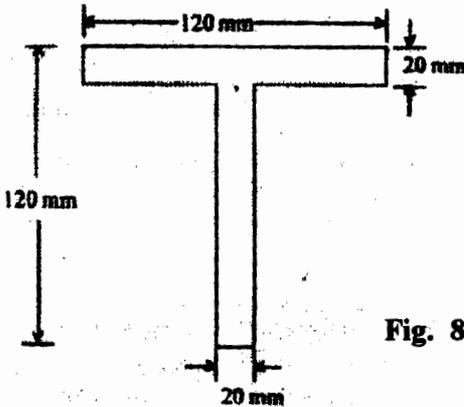

Fig. 8
- (a) Define shape factor and obtain its value for T-section with the following dimension shown in the fig 8. If the yield stress is 250 N/mm^2 . Find M_p .